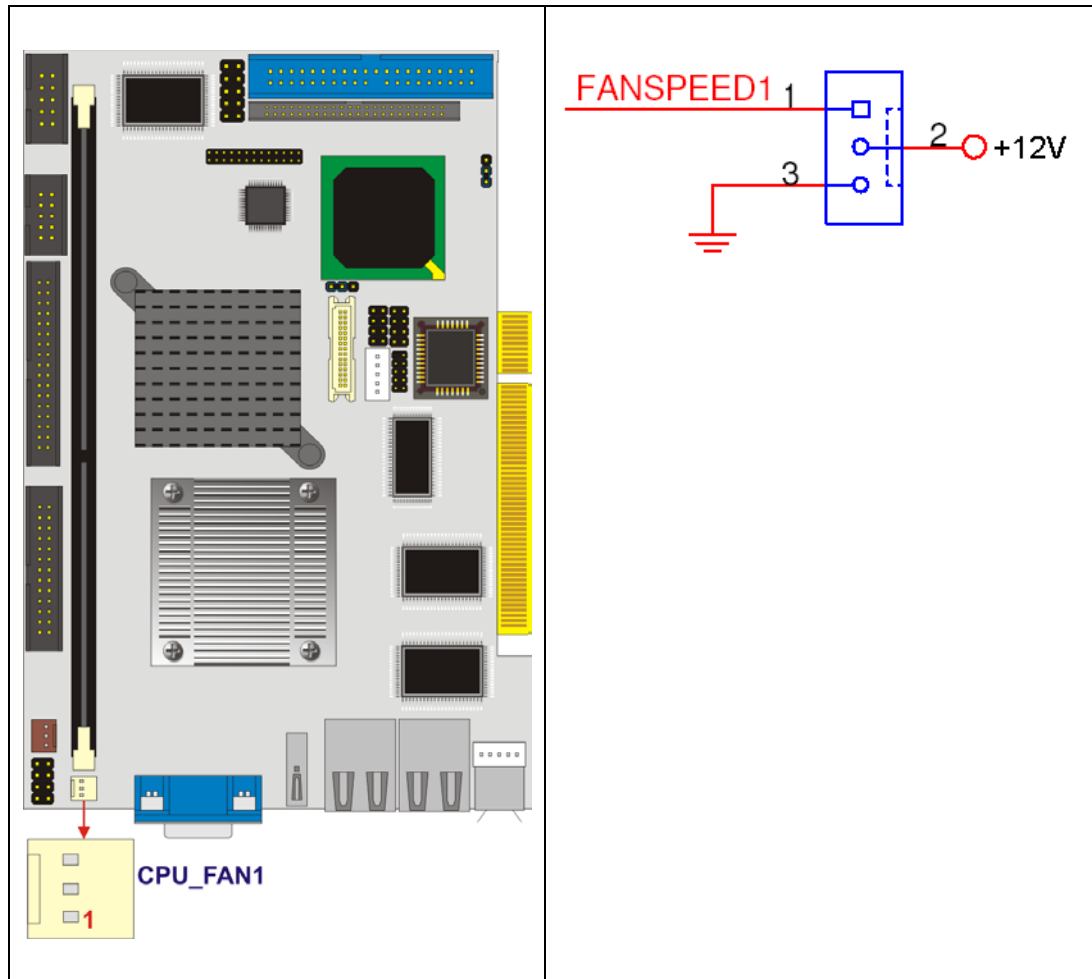

Figure 3-8: Fan Connector Location
**CN Location:** See Figure 3-8